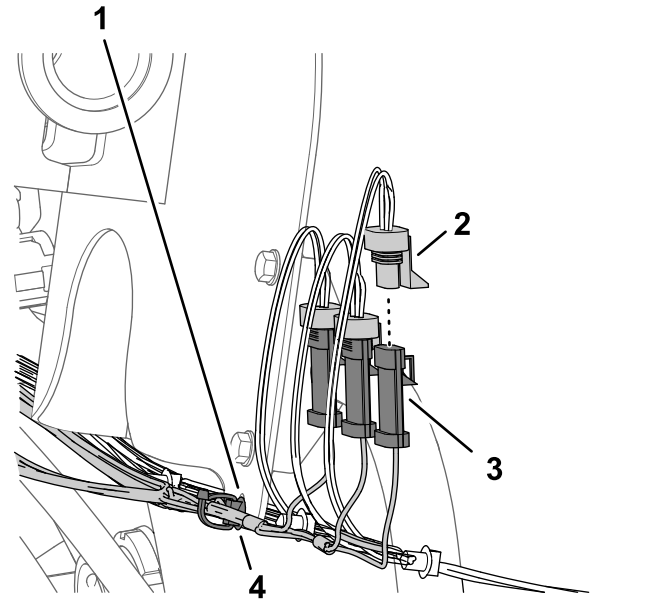

Figure 87
1. Connect the 3-pin connector of the 89 cm (35 inch) kit sprayer-harness branch labeled LEFT SPRAY to the 3-socket connector of the machine wire harness labeled LEFT SPRAY VALVE (Figure 87).
2. Connect the 3-pin connector kit sprayer harness s labeled CENTER SPRAY to the 3-socket connector of the machine wire harness labeled CENTER SPRAY VALVE (Figure 87).
3. Connect the 3-pin connector of the kit sprayer harness labeled RIGHT SPRAY to the 3-socket connector of the machine wire harness labeled RIGHT SPRAY VALVE (Figure 87).
4. Insert the push-in fastener of the kit sprayer harness into the hole in the flange of the flow-meter bracket (Figure 87).